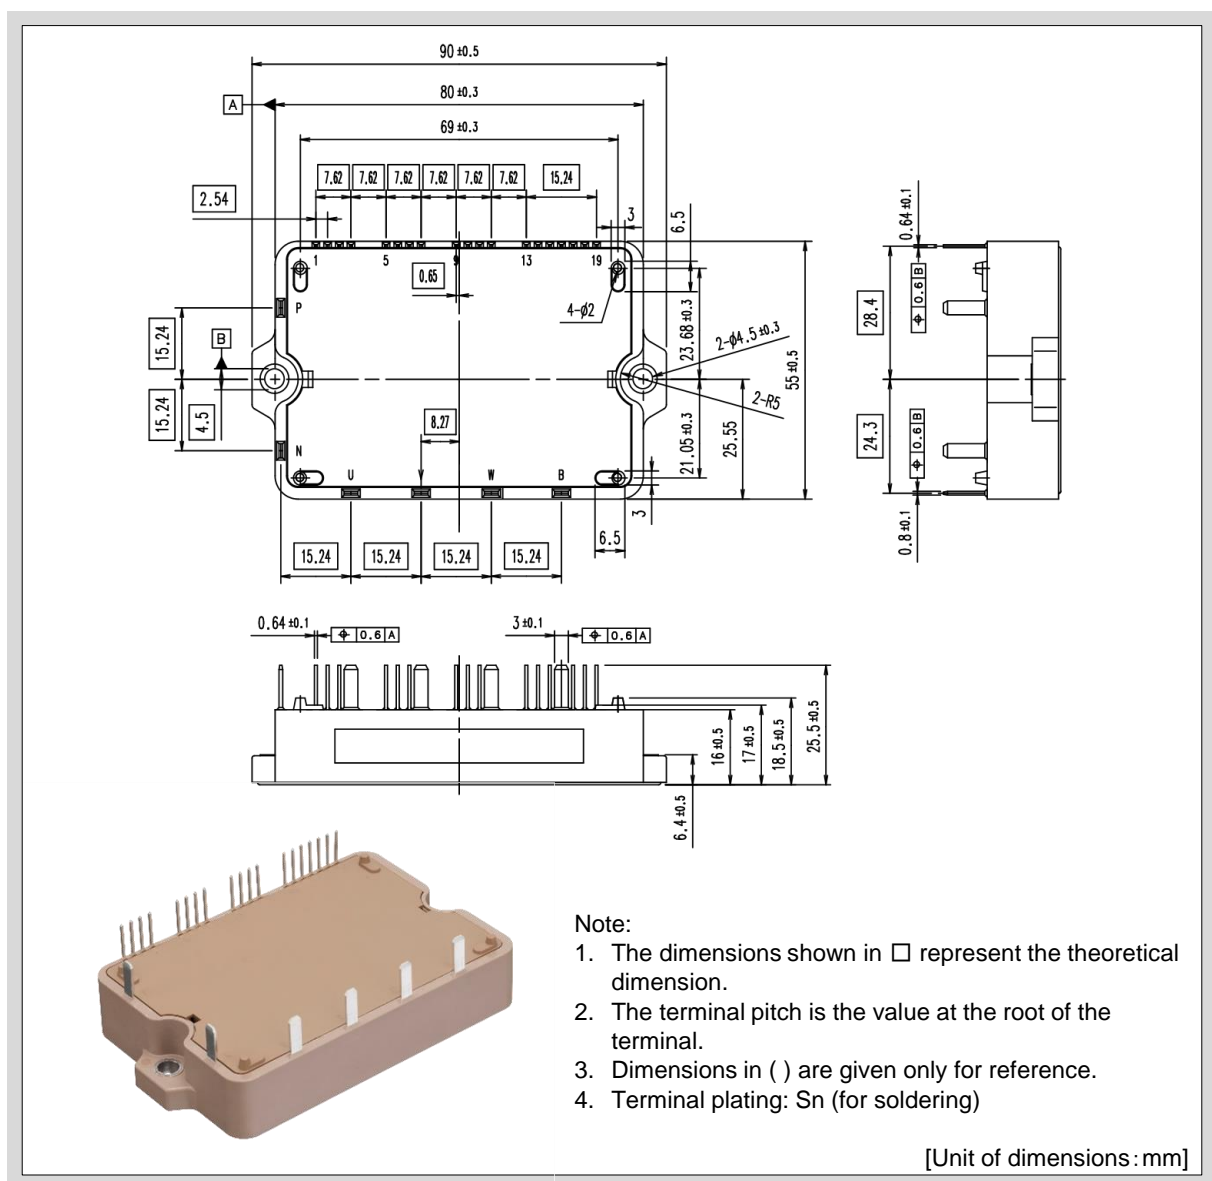

Fig.1-6 Package outline drawing(P636)
- The package outline drawing is shown in Figure 1-6.